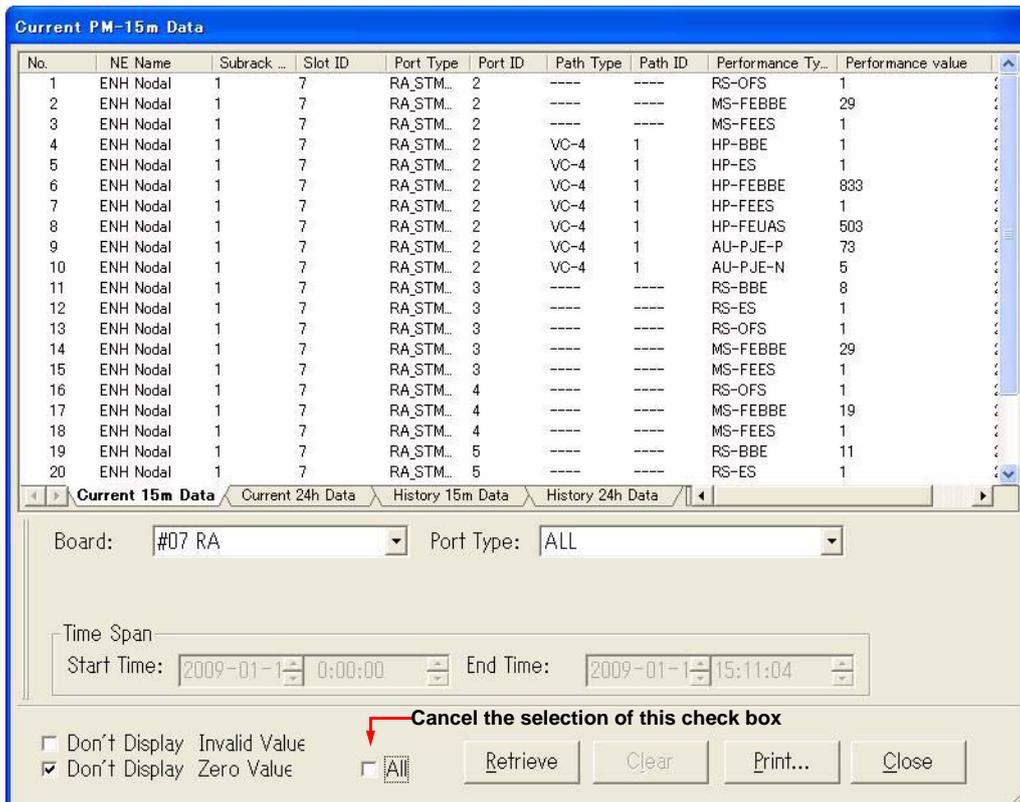

Fig. 4-7-17 Performance View -- Current 15m Data (Clear All Check Box)
- 1 Unselect the **All** check box by clicking. The window shown in **Fig. 4-7-17** appears: